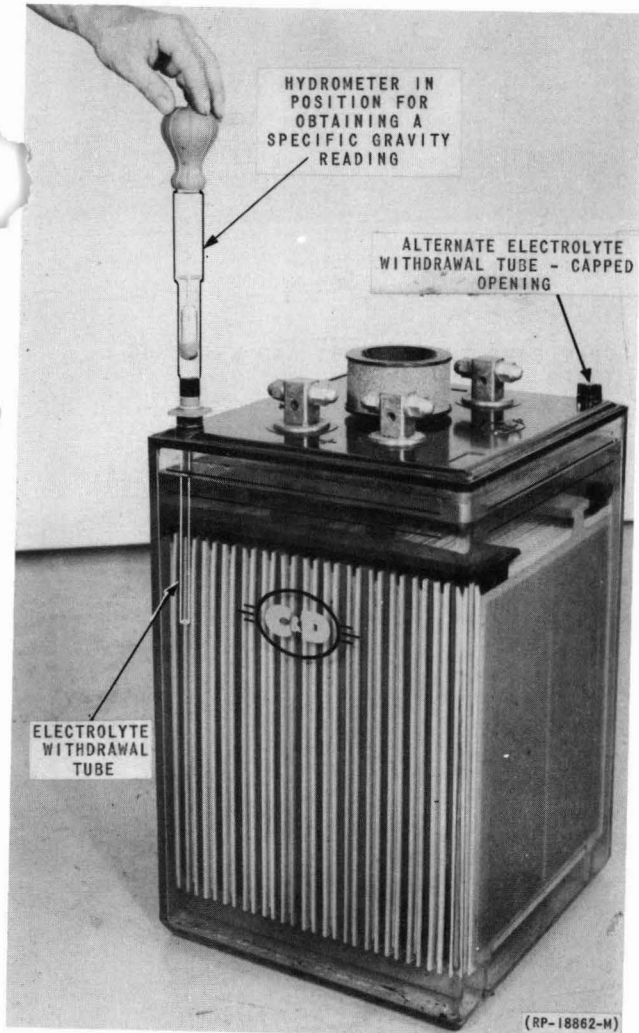

FIG. 3 KS-15544 L508 C & D CELL WITH ELECTROLYTE SAMPLING TUBE (PARS. 4.2, 7.1)
7.1 Cells in the KS-15544 List 500 Series are or soon will be equipped with electrolyte withdrawal tubes. These tubes are intended to permit truer measurement of specific gravity by taking electrolyte from about 1/3 the way down the side of the cell instead of from the top. See Figure 3. Do not place thermometer in this opening.